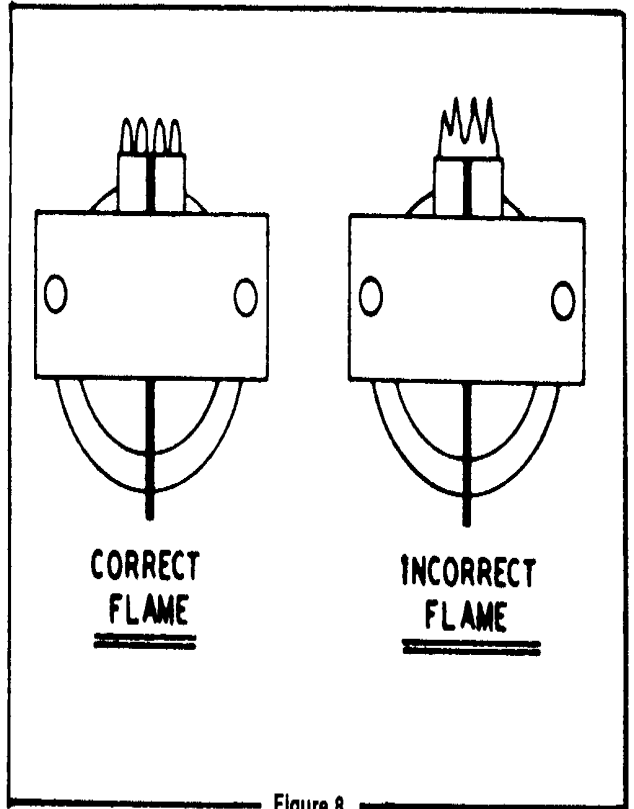

Figure 8
- 15. If the electrode sparks and the valve opens but the burner will not light, check the gas supply for 11" WC pressure to the main burner office. If 11" is present to the valve but not to the orifice, replace the valve. Check vent and air intake installation. Check the main burner for correct relationship to the electrode assembly (burner should be 3/16" from the spark probe and sawports or charge ports directly under the spark gap). Check main burner for soot build-up in ports (see Figure 8). Clean cast-iron burners by passing a hacksaw blade through the sawports, being careful not to enlarge the openings. Wire brush stainless tube burners to remove build-up.**